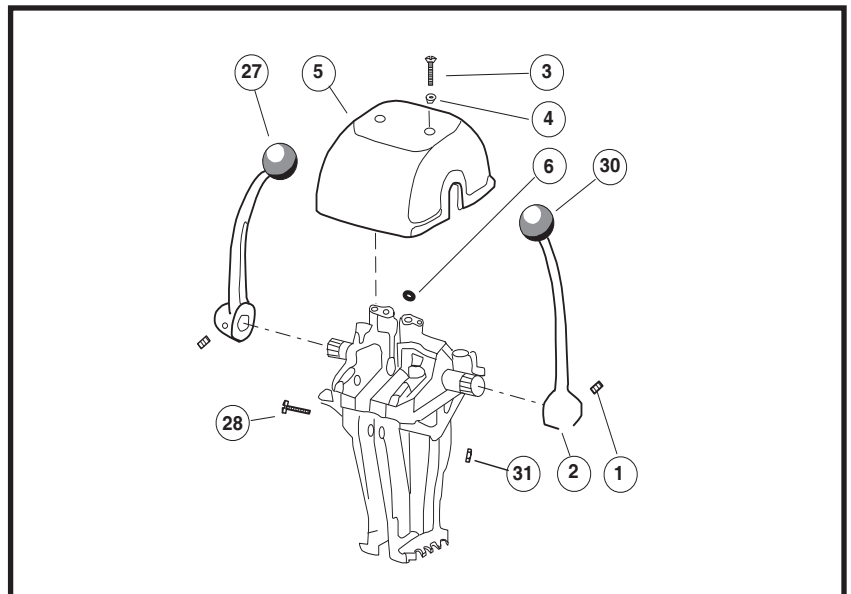

Figure 5.
STEP 1. Remove control cover (5) by removing screw (3) and washer (4). (See Figure 5.)